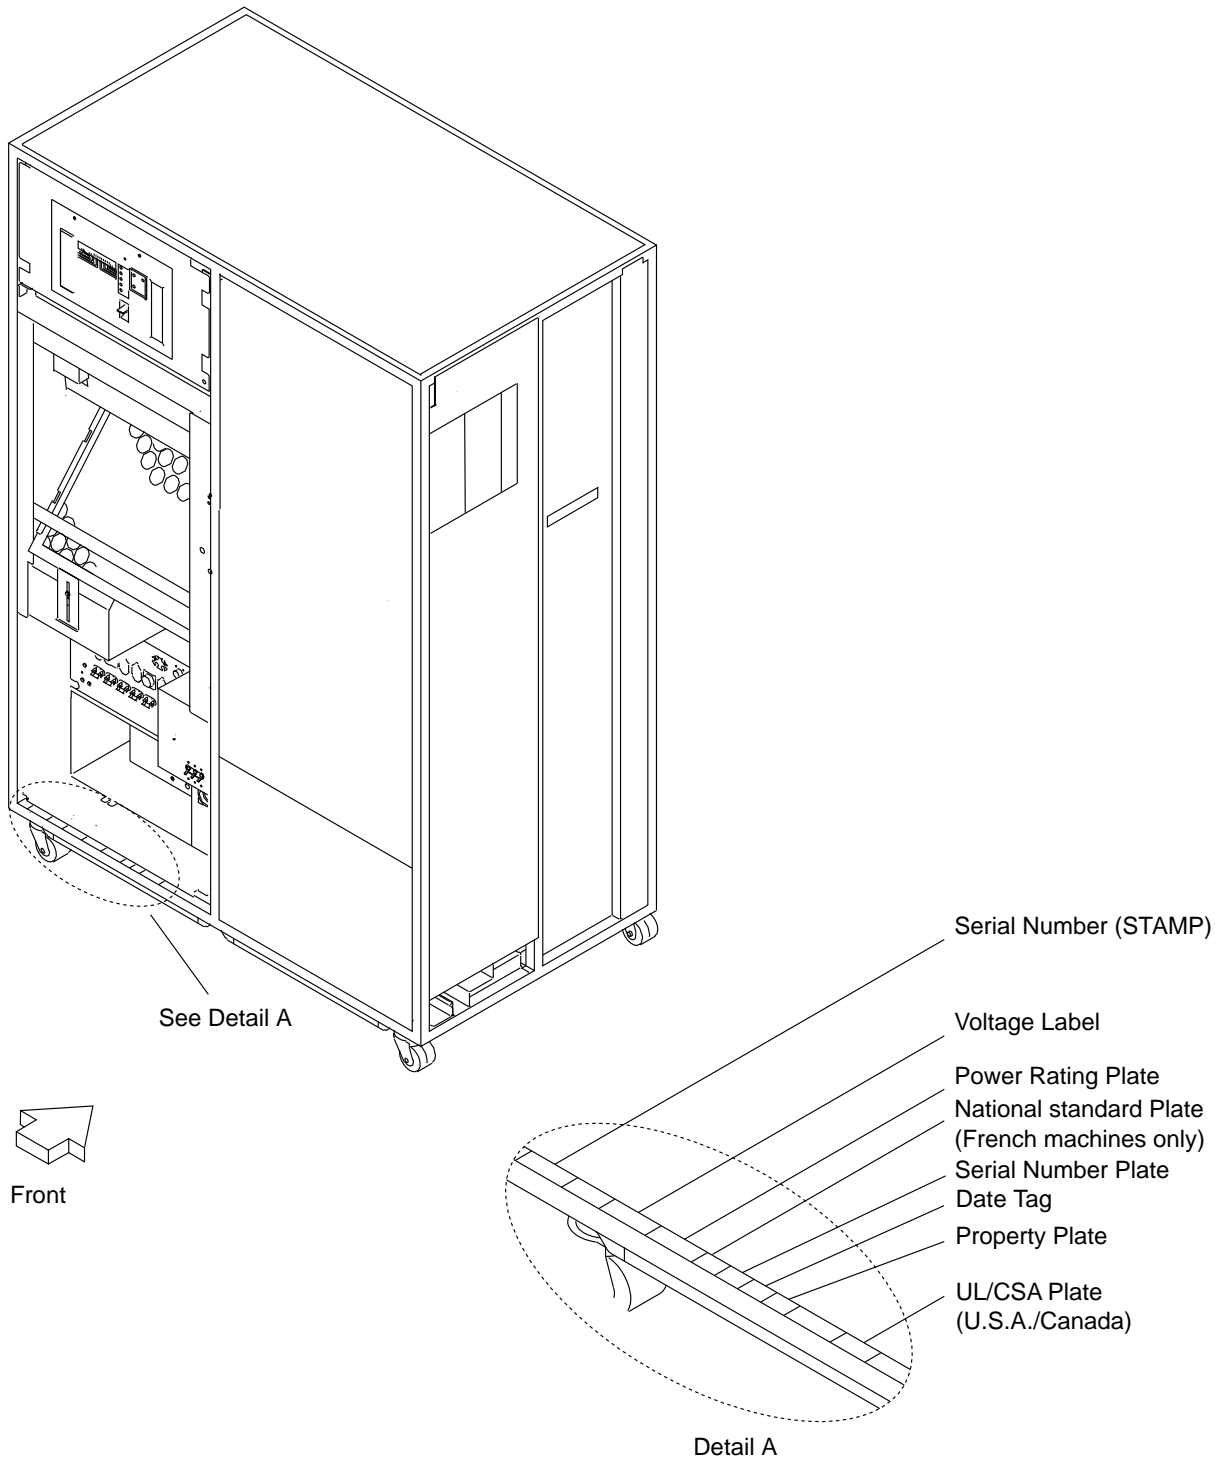

Figure 2-1. 3745 Front View
- Step 3. \_\_\_\_ Open the front doors. Locate the power rating plate (see Figure 2-1 on page 2-2, detail A). **Check that the 3745 AC power rating plate data is consistent with the customer's available voltage, current and frequency.** If there is a mismatch, stop the installation, check with the customer, and notify the IBM sales representative. Any voltage change must be made by MES only.
- Step 5. \_\_\_\_ Check the serial number on the front door tag (see Figure 6-1 on page 6-3). Check the serial number stamped on the frame, and the serial number plate (see Figure 2-1 on page 2-2 for location).
**Warning:** Check that the 3745 AC power rating plate data (see Figure 2-1 on page 2-2) is consistent with the voltage, current and frequency values available at the customer's receptacle. If not, stop the installation and notify the sales representative. Any voltage change must be made by MES only.